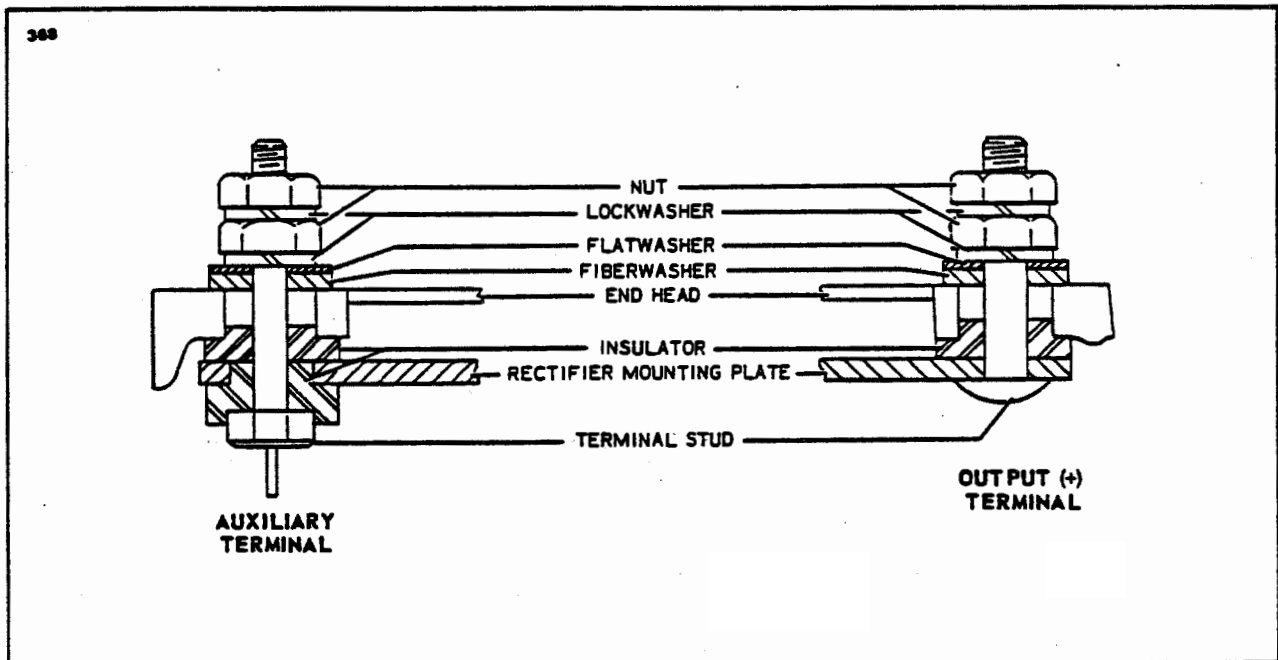

Figure 11-13. Terminal Assembly
c. Reassembly the rectifier mounting plate studs and insulators, making sure they are in the correct order. (Refer to Figure 11-13.)